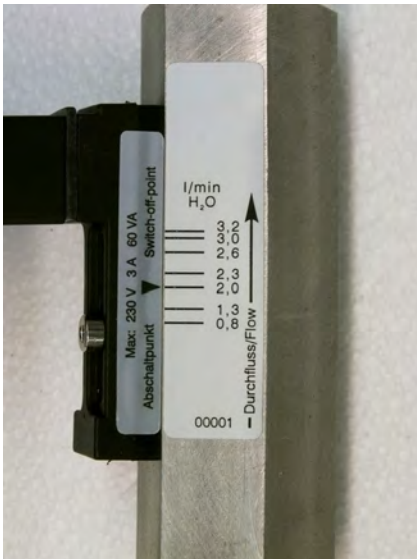

Fig. 34: Reading-off the switch point value (example scale)
1.  Make sure that the setting arrow and the scale mark on the switchpoint adjustment scale are in alignment (Fig. 34).